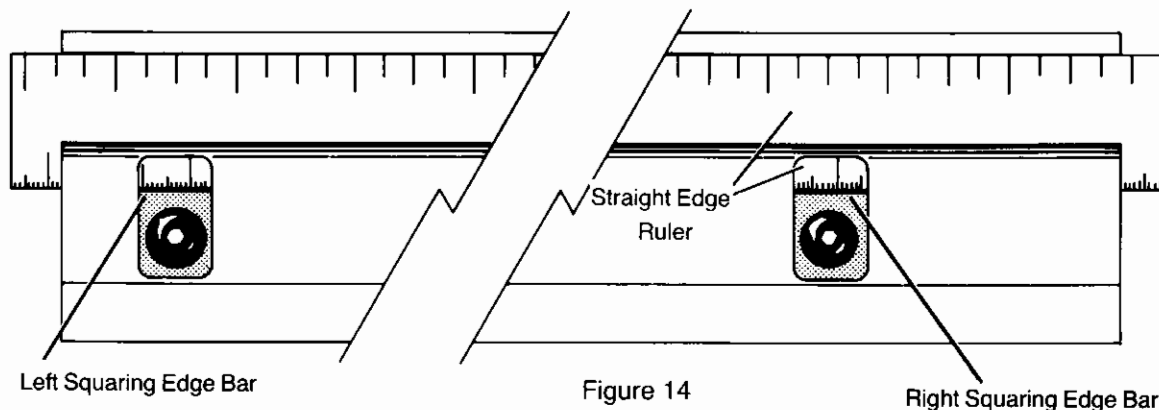

Figure 14
3. Slide the straight edge to the right so it lays on the **Right Squaring Edge Bar** and the **Left Squaring Edge Bar**. Holding the left part of the straight edge down on the **Left Squaring Edge Bar**, adjust the right most (number 3) **Eccentric Nut** if necessary, to bring the **Right Squaring Edge Bar** in contact with the straight edge. Again this can be easily observed in the cut out. See Figure 14